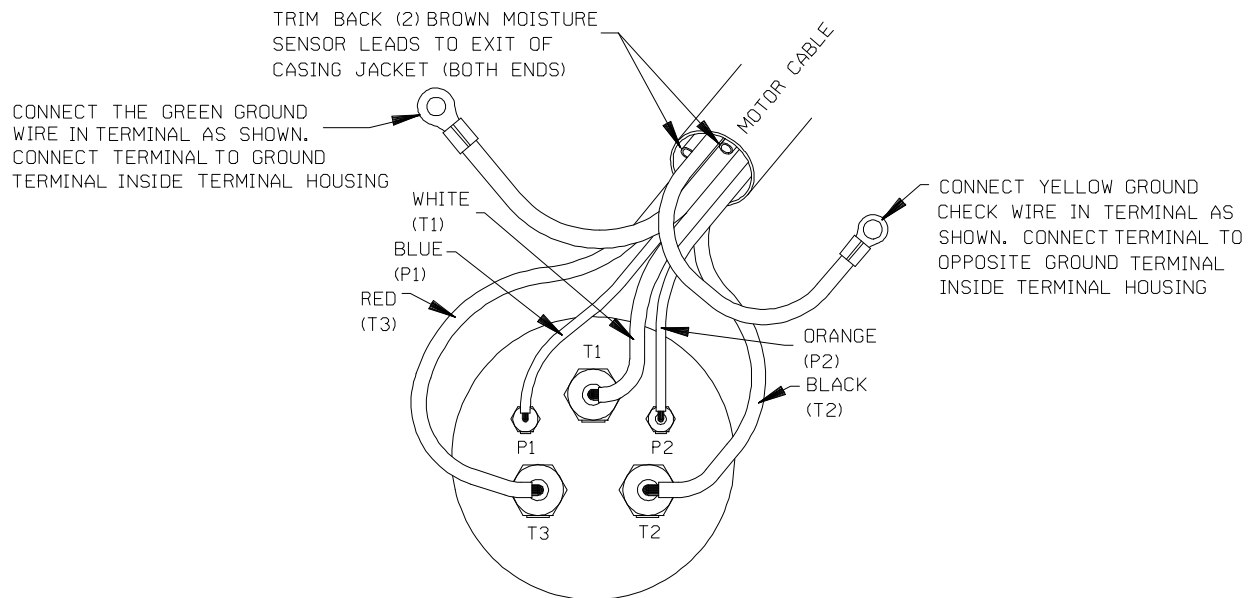

Figure C-6. Terminal Housing Wiring Connections
Slide a length of heat-shrink tubing up over each of the power cable leads. Insert the standard power cable leads into the large terminal collars (26), and secure them with the setscrews (27). Insert the two control leads into the small terminal collars (14) and secure them with the setscrews (13). See Figure C-6 for wiring connections.
See Figure C-6 and check terminal locations. Apply a 1/4 to 3/8 in. (6,4 to 9,7 mm) thick layer (maximum) of silicone adhesive around each of the ter-